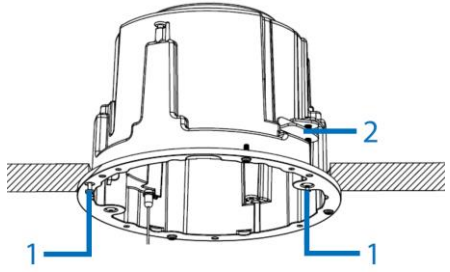

Figure 5
- Insert the Recessed camera housing into the hole in the ceiling and fasten the two screws (1) (Figure 5) with a screwdriver so that both locking springs paddles (2) (Figure 5) can slide out to secure the camera housing into the ceiling.